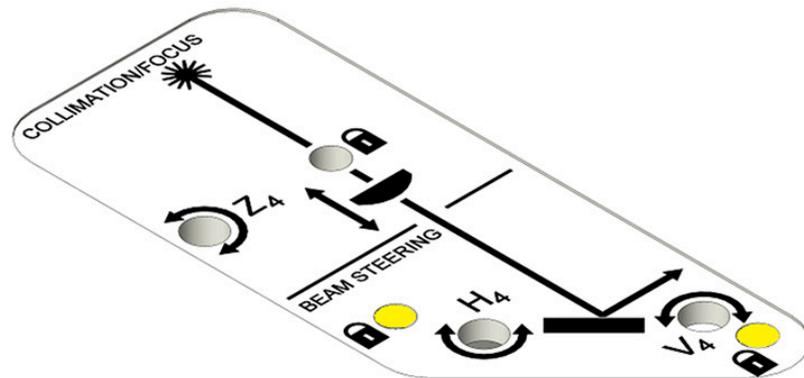

Figure 8-12. Torque Locks for Beam Adjustment
- Lock down the pointing beam adjustment. Refer to locations highlighted in Figure 8-12. Use a torque screwdriver with 5/64-in. hex bit to tighten the lock screws. Refer to 'Torque Notes Recommendations' (p. 198).